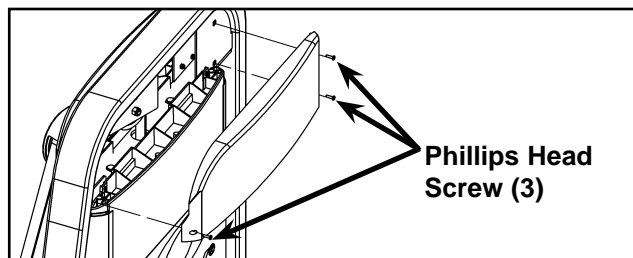

Figure 2
- E. Remove the three Phillips head screws securing the top (back) shroud and carefully remove the shroud. See Figure 2.